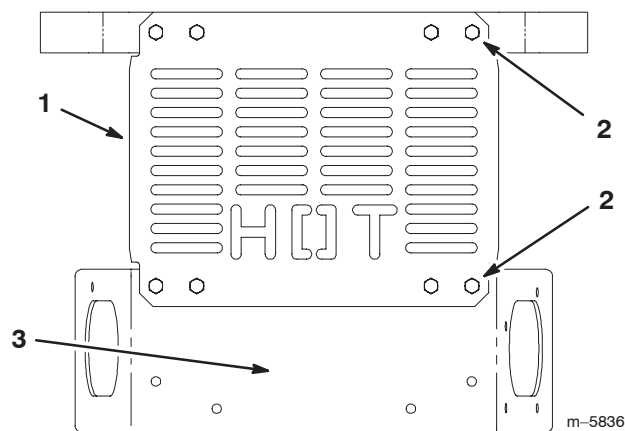

Figure 3
1. Remove the rear heat shield (Fig. 3). Discard the bolts and nuts.